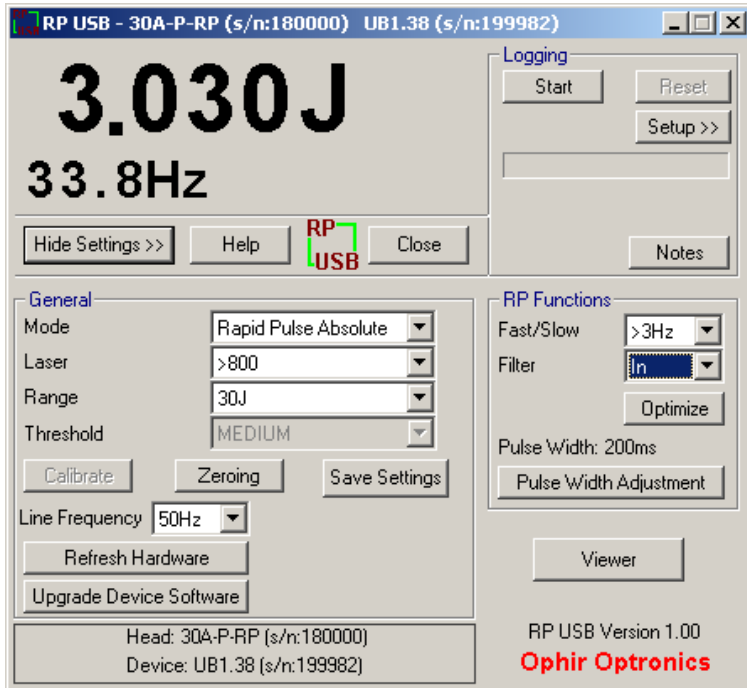

Figure 22: RP-USB display fully opened with head in RP Energy mode
8. Laser frequency will be displayed as well (see Figure 22, page 38)